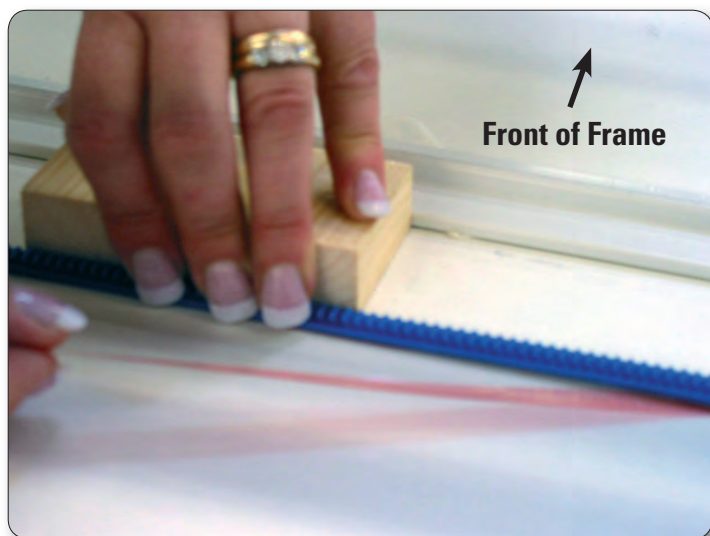

Figure 3
3. Starting at one end of the table, begin mounting the blue rack to the table. Peel back just a few inches of the protective layer of the tape. Position the blue rack using the wooden alignment block (O) as a guide. The wood block should be laid flat on the table top, butted against the inside edge of the front white track (Figure 3). The blue rack then butts against the opposite side of the block so the blue rack is mounted 2" away from the front white track.